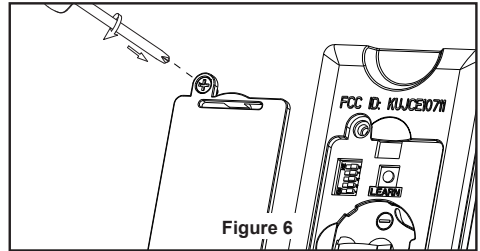

Figure 6
6. Secure the glass to the switch housing assembly by twisting in a clockwise direction. Twist the glass gradually **until it snaps onto the switch housing assembly**. Do not over-tighten. (Figure 6)
6. Replace battery cover on the remote control and secure with the previously removed screw. (Figure 6)